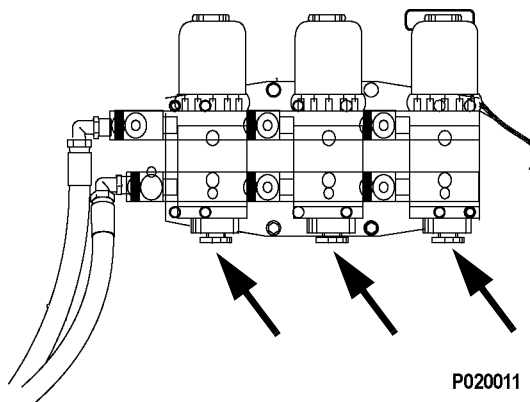

FIGURE 40-5. STAGE 1 FUEL FILTERS & WATER SEPERATORS
13. FUEL FILTERS - Drain any water from the bottom drain valve on each of the three Stage 1 fuel filter water separators. See Figure 40-5.